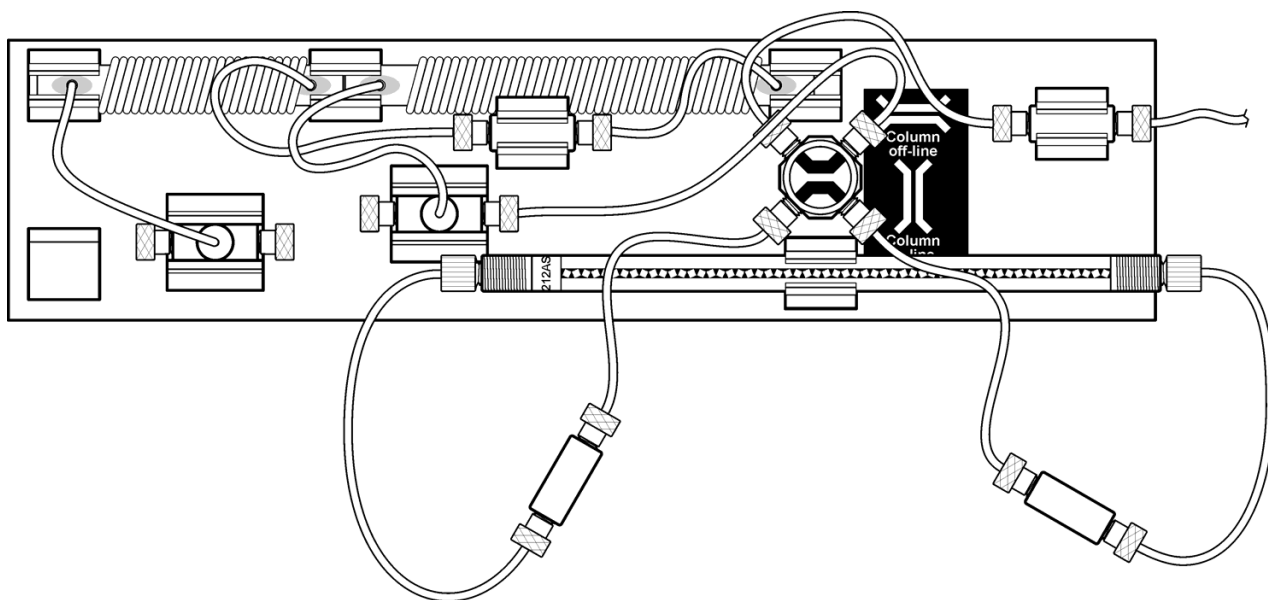

Figure 3 Cadmium column installed
- 7. Install the column on the nitrate manifold (Figure 3 on page 3).